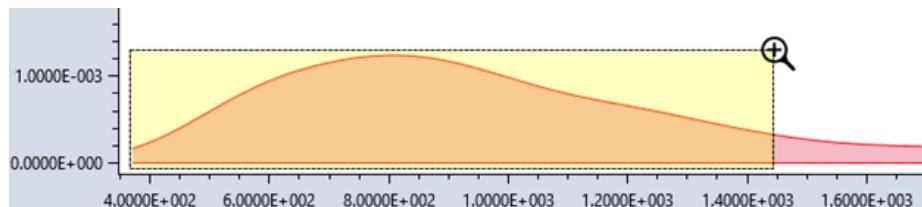

Figure 4.37: Zooming in on a plot.
- **Zoom In** by clicking, holding, and dragging with your mouse to highlight the area of interest with the magnifying glass cursor (Figure 4.37). You can also zoom in on a single axis by clicking, holding, and dragging along that axis. Alternatively, use the mouse wheel to zoom in or out.